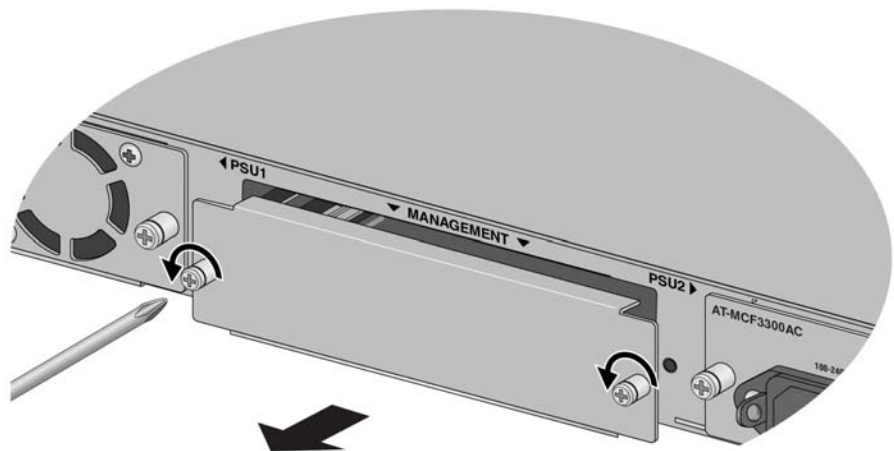

Figure 29. Removing the Blank Panel from the Management Module Slot
1. Using a cross-head screwdriver, loosen the two captive screws that secure the blank panel over the Management slot on the rear panel, and remove the panel. Refer to Figure 29.